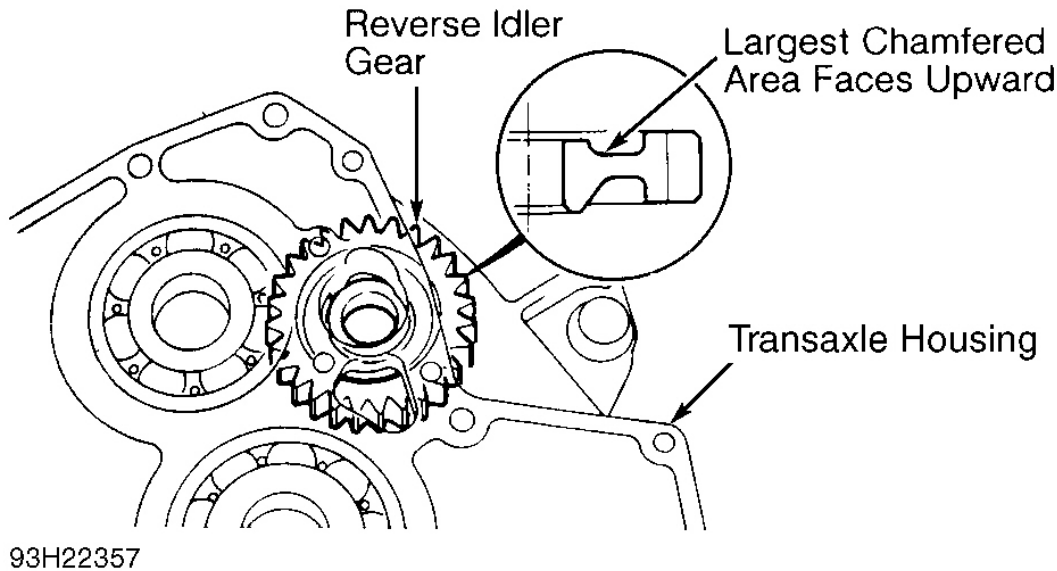

Fig. 28: Installing Reverse Idler Gear
20. On all models, install reverse idler gear in transaxle case, with largest chamfered area facing upward (away from transaxle housing). See **Fig. 28** . Install NEW gasket on torque converter housing. Align spring pin with groove in transaxle housing by rotating shaft. See **Fig. 8** .